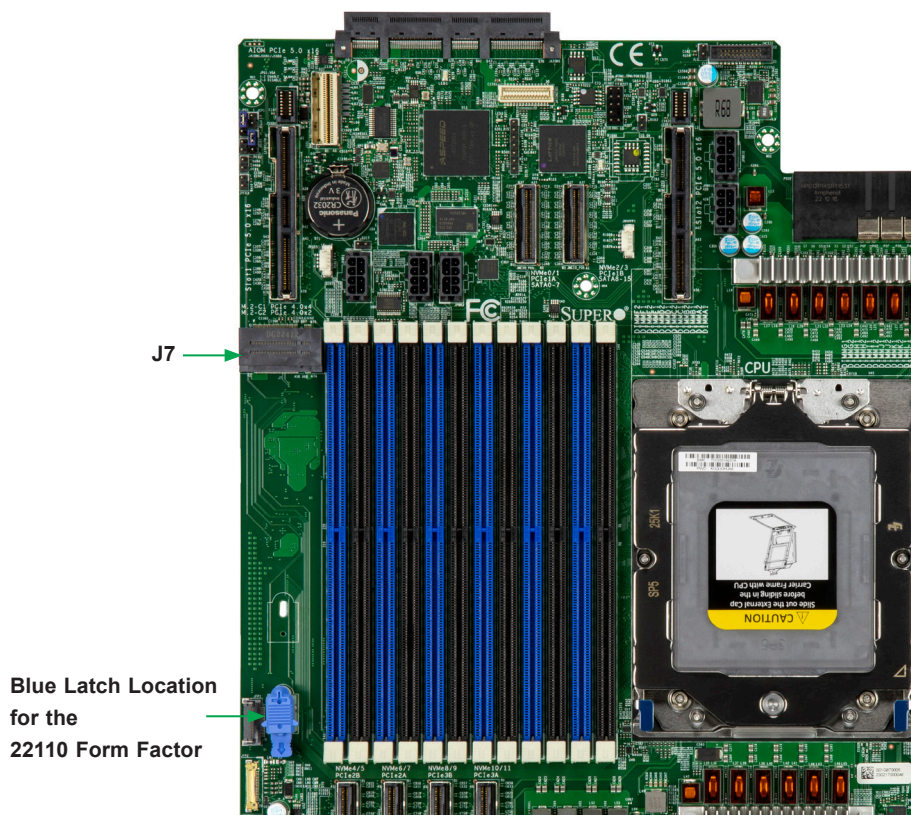

Figure 3-7. M.2 Slot and Latch Location
3. Insert a PCIe Gen 3 x4 M.2 SSD into the lower J7 slot. Next, follow the instructions from ① to ③ in Figure 3-7.
4. Insert a PCIe Gen 3 x2 M.2 SSD into the upper J7 slot. Next, follow the instructions from ④ to ⑥ in Figure 3-7.